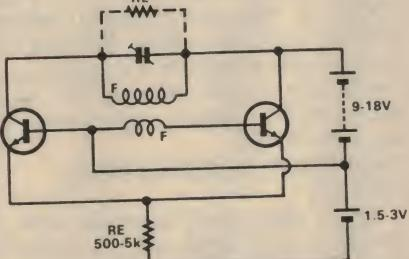

FIG. 4
This is a rather unusual but very useful push-pull long-tail arrangement using small-signal high gain transistors of the cheapest kind. Fig. 4 shows its essentials. The circuit first came to my notice in an interesting and valuable paper on transistor oscillators by P.J.Baxandall (1) published in 1960. A vigorous oscillator of good stability and fairly high efficiency, it can give a pure RF waveform with distortion as low as 0.1%. As can be seen, the number of parts required is minimal.